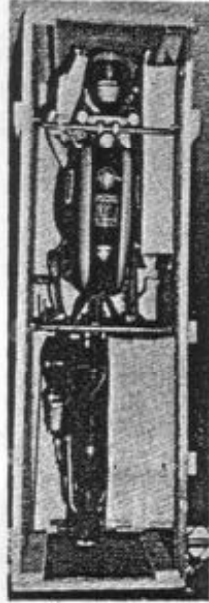

fig. 1
- a. After removing the lid of the crate you will observe that packing braces are located at the handle-bars and seat post. Remove the bolts fastening the packing braces to the side of the crate and remove rear brace. (Fig. 1).